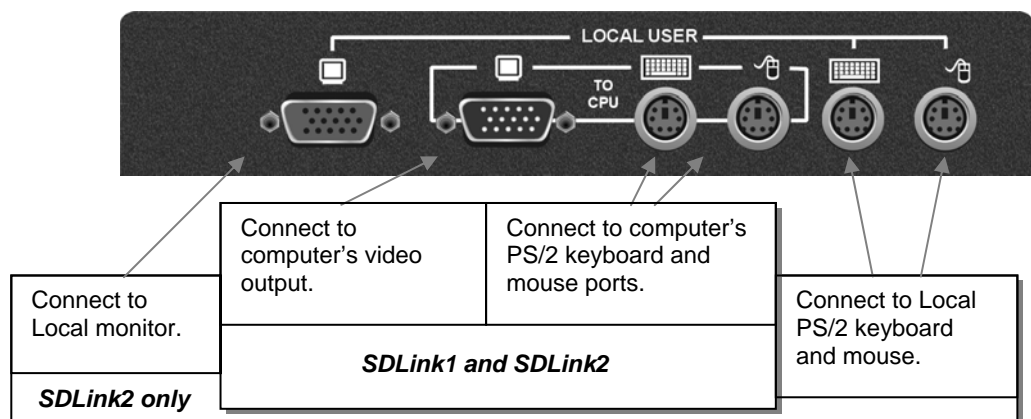
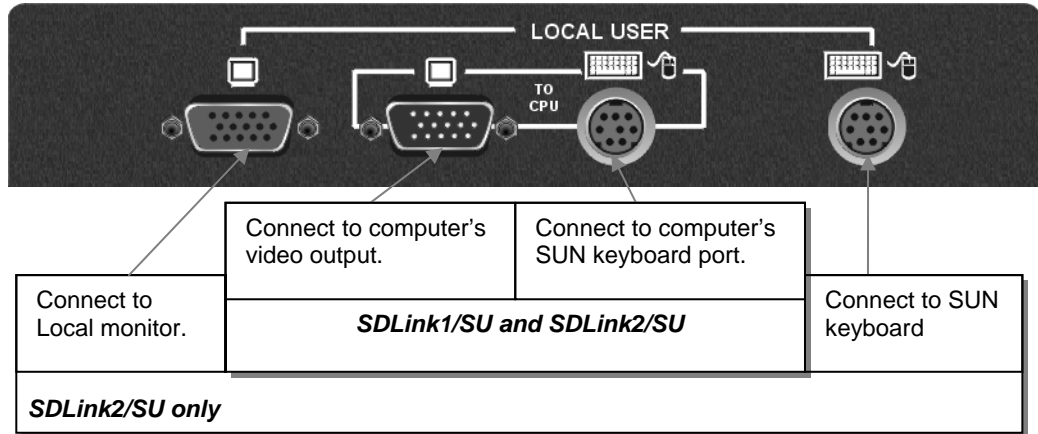
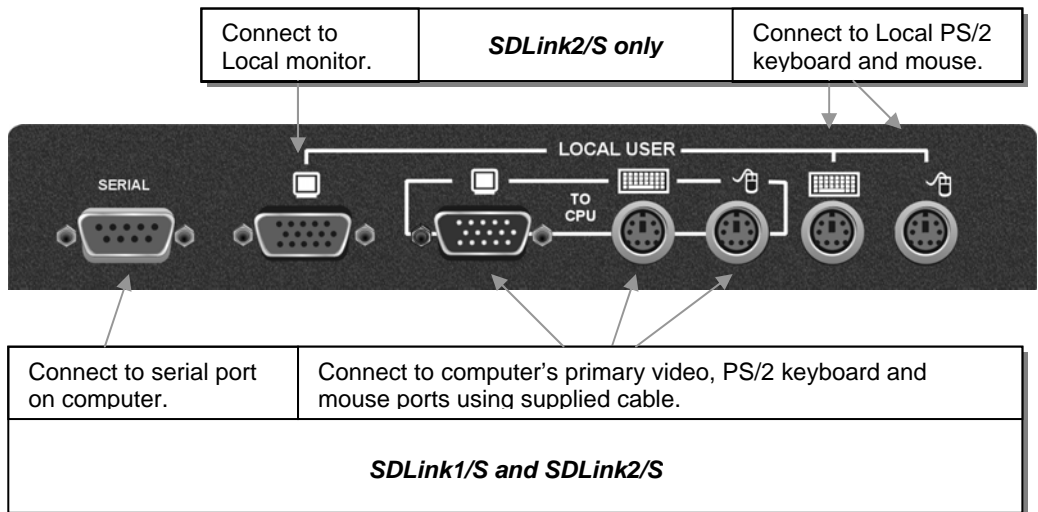

Figure 7 SDLink Standard Local Unit - rear view
Figure 8 SDLink SUN Local Unit - rear view
Figure 9 SDLink Serial Local Unit - rear view
2. Using the supplied CPU KVM cable(s), connect the keyboard, monitor(s) and mouse connectors on the computer (or KVM switch) to the corresponding connectors on the Local Unit as shown in Figure 7 (Standard), Figure 8 (SUN) or Figure 9 (Serial).